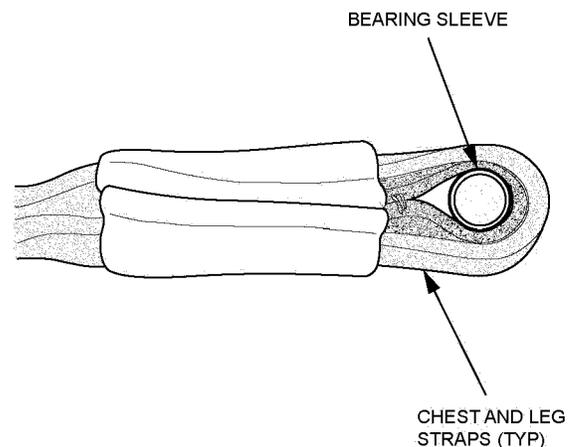

Figure 6. Bearing Sleeve Installation
- d. Remove roller sleeves from quick ejector and insert in chest (1) and leg (2) webbing loops (Figure 6).